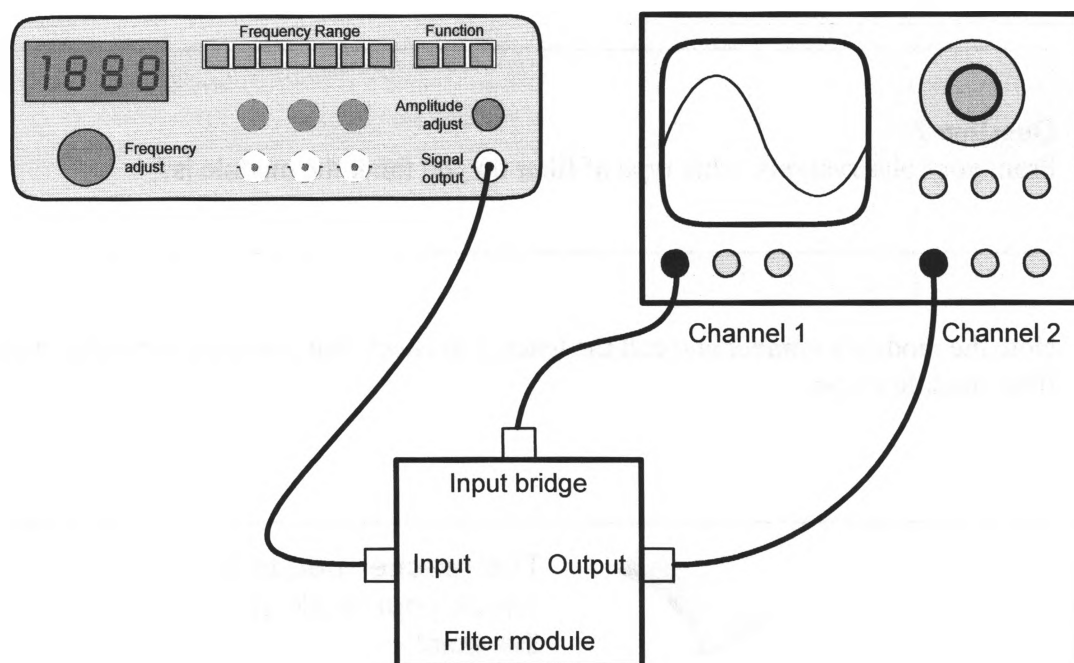

Figure 1
4. Connect both the function generator's output and the CRO's channel 1 input to the filter module's inputs as shown in Figure 1 below.
5. Connect the CRO's channel 2 input to the filter module's output as shown in Figure 1 below: